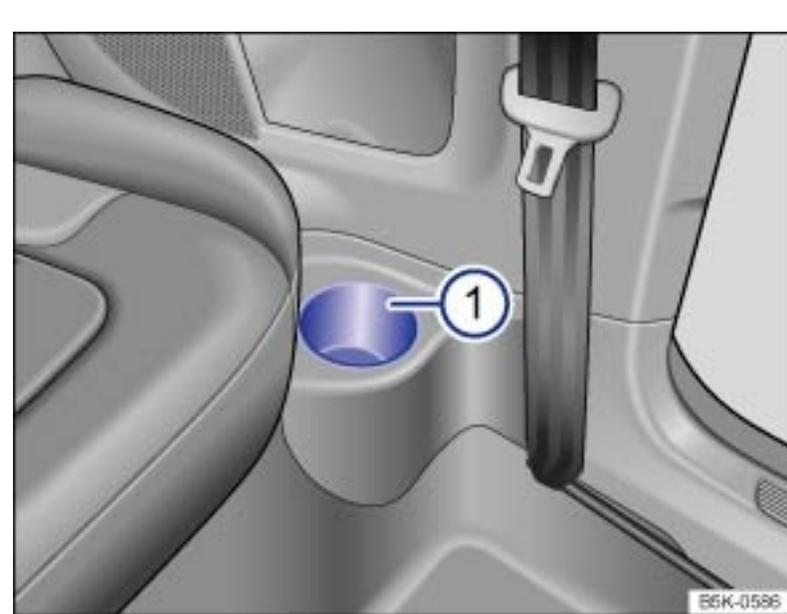

Fig. 130 In the trim next to the rear seats (2-door models only): Cup holder.
Some 2-door vehicles are equipped with open cup holders in the trim next to the rear seats → Fig. 130 ① .